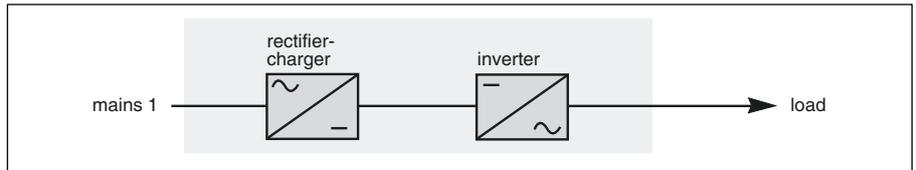

Fig. 5
- ▶ Frequency converter without backup power: (figure 5)